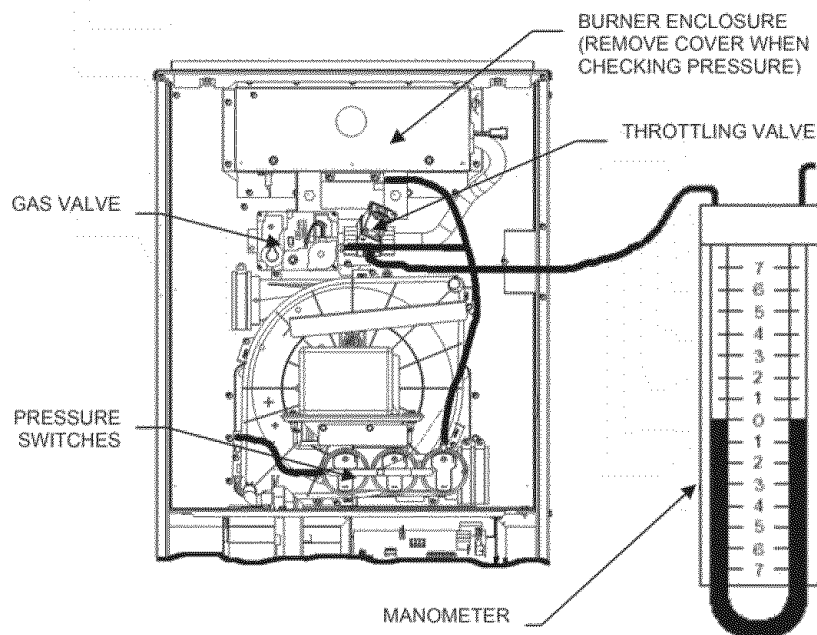

Fig. 14 - Adjusting Manifold Pressure (Manifold Attachment)
3. Attach manometer to manifold pressure tap on throttling valve (See Fig. 14.)